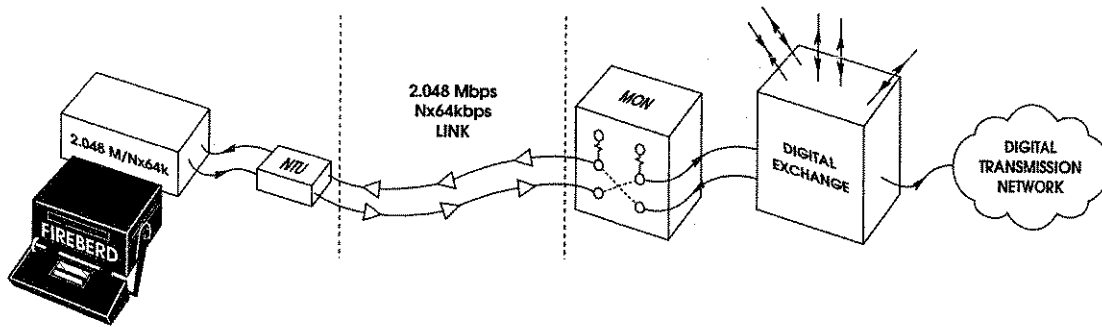
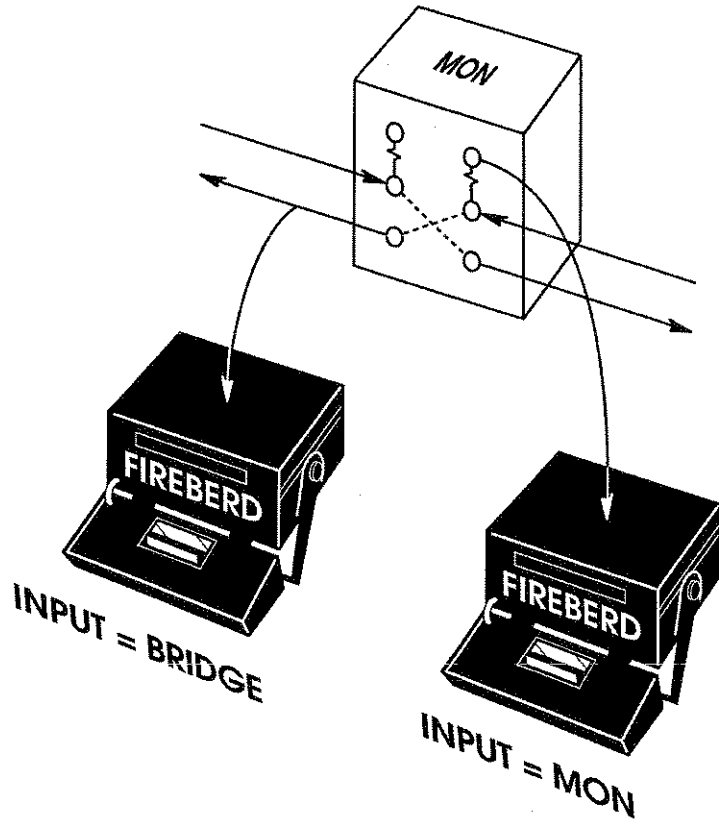

Figure 3-7. Out-of-Service 2.048M/Nx64K Data Interface Equipment Connections
Figure 3-8. In-Service 2.048M/Nx64K Data Interface Equipment Connections
The following applications are intended to provide examples of how the 2.048M/Nx64K Data Interface may be used. In the following examples, certain criteria are specified that may not be applicable to all test environments (e.g., framed data, multiframing, and operation mode). Set the FIREBERD and interface parameters as required for your particular test environment. An out-of-service example and in-service are provided. Refer to Figure 3-7 and Figure 3-8 for typical out-of-service and in-service equipment connections.
The mainframe and interface settings, listed in Table 3-7, are provided as an example and not intended to define all test environments. Refer to the interface menus found earlier in this section for the FIREBERD 6000 and FIREBERD 4000 menus. Refer to Figure 3-7 for a typical equipment connection.
2.	Connect the 2Mbps IN jack, located on the NTU (Network Termination Unit), to the TX (Transmit) jack, located on the 2.048M/Nx64K Interface (refer to Figure 3-7). Connect the OUT jack, located on the NTU to the RX (Receiver) jack, located on the 2.048M/Nx64K Interface.
1.	Configure the FIREBERD mainframe and 2.048M/Nx64K Interface, as indicated in Table 3-8 and connect the equipment as illustrated in Figure 3-8.
2.	Connect the 2Mbps signal to the TX (Transmit) jack, located on the 2.048M/Nx64K Interface (refer to Figure 3-8).